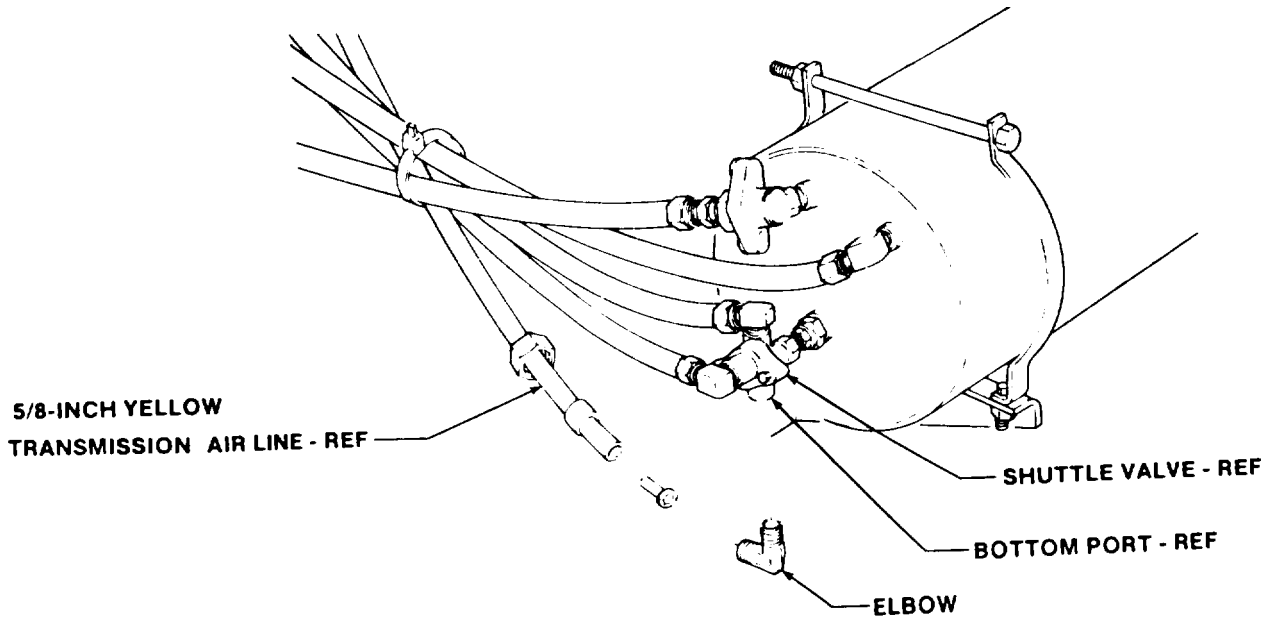

FIGURE 2
(3) Remove 5/8-inch yellow transmission air line from elbow on shuttle valve as shown in figure 2.
(4) Remove elbow from bottom port on shuttle valve as shown in figure 2.